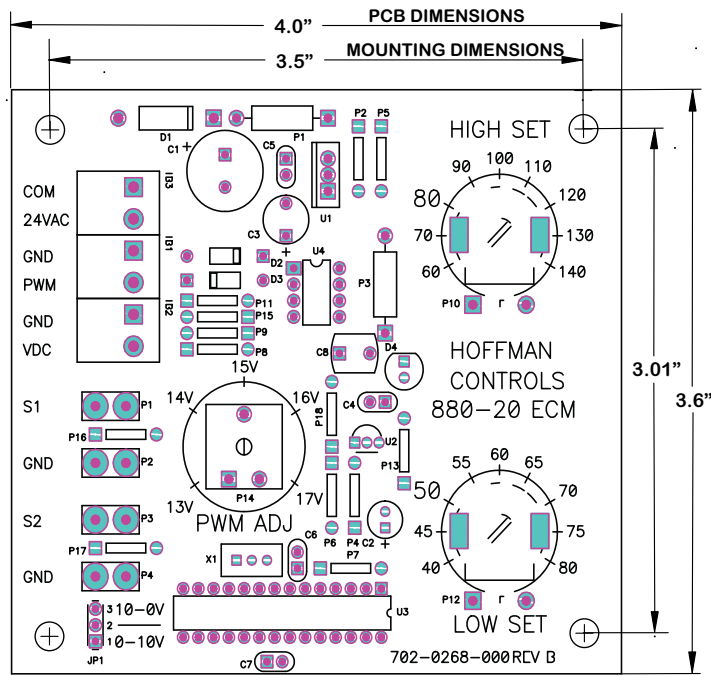

Figure 2 - 880-20 Mounting Templates (not to scale)
- Dimensions and mounting hole patterns for the control are included in Figure 2, 880-20 Mounting Template.